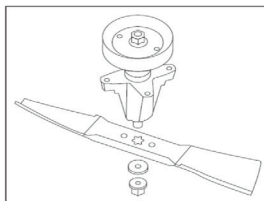

FIG.28
5. REMOVE THE NUT AND BLADE FROM THE BLADE. (FIG.28)